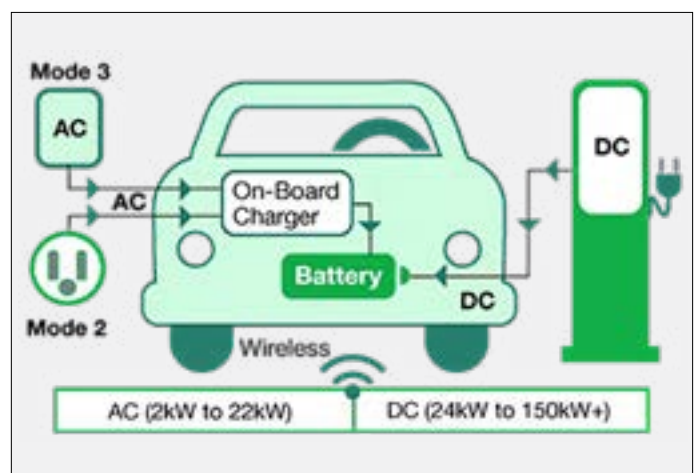

Figure 1: AC and DC Charging in an Electric Vehicle
One can charge EVs using Alternating Current (AC) or Direct Current (DC). AC charging is the most common method, with the onboard charger being the main converter. As shown in Figure 1, power fed into the vehicle must be converted to DC to charge the battery. This conversion must occur within the vehicle using an Onboard Charger (OBC) or inside the charge station.